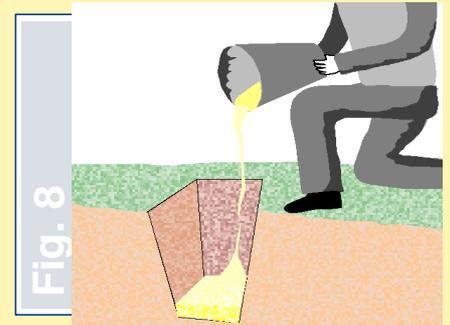

Fig. 8
- dig holes of dimensions 40x40 cm and depth of 60-80 cm to assembly posts depending on a kind of the ground and the freezing zone - Fig. 6 and 7. The bottom of the hole should be filled with sand, 5-10 cm thick - Fig. 8